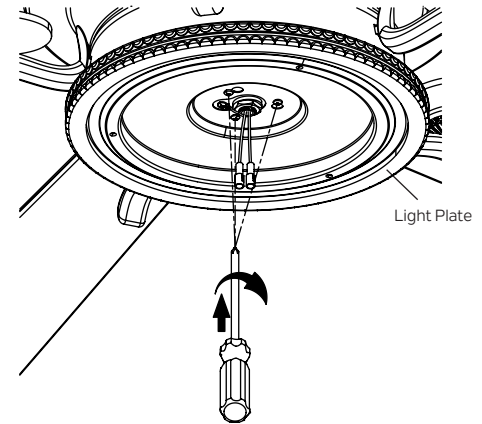

Fig. 23
**Step 2.** Place the two slot holes on the light plate over the 2 screws previously loosened from the mounting plate. Rotate the light plate until it locks in place at the narrow end of the key holes. Secure by tightening the 2 screws previously loosened and the one previously removed. (Fig. 23)